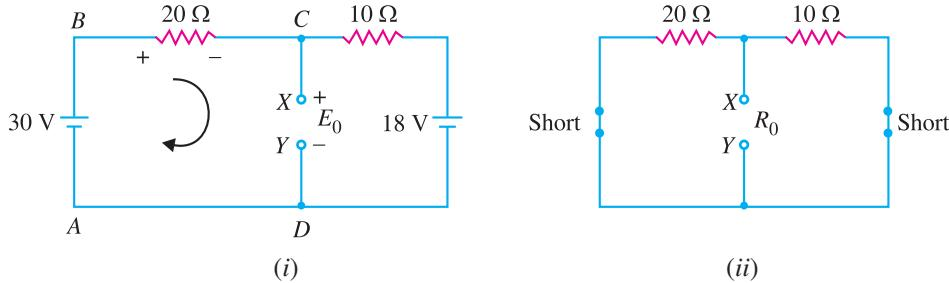

Fig. 1.43
**Finding Thevenin Equivalent circuit.** To find  $E_0$ , refer to Fig. 1.43 (i). Since 30 V and 18 V sources are in opposition, the circuit current  $I$  is given by :
To find  $R_0$ , we short both voltage sources as shown in Fig. 1.43 (ii). Notice that 10 Ω and 20 Ω resistors are then in parallel.